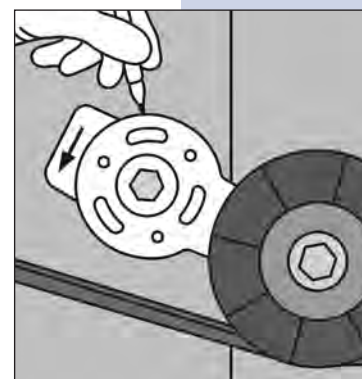

Fig. 2
8. The tensioner spring is not yet under tension. Put the idler in light contact with the belt(s) and rotate the tensioner base clockwise if the arrow points to "CW" or counterclockwise if the arrow points to "CCW" until you feel light spring pressure. Use a marking pencil to mark a line on both the housing and base of the tensioner. This will be the starting point for establishing tensioner force and degrees of rotation. See Fig. 2.